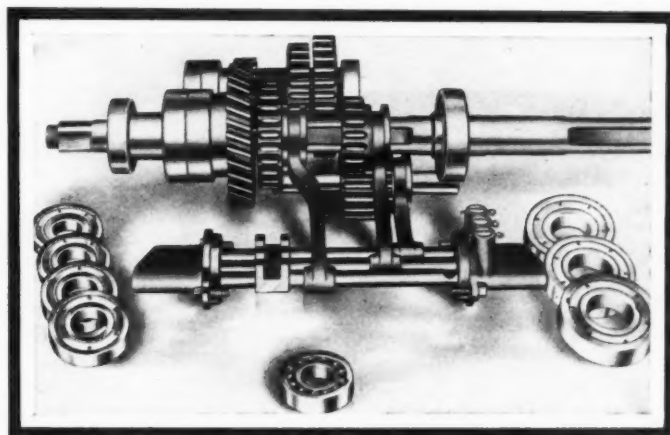

Fig. 2—Assembly of Knox gearset showing annular ball bearings
Fig. 2—(1) R.A.F. demountable wire wheel on a front-wheel spindle—(2) auxiliary hub upon which pressed-steel wheel hub is mounted—(3) the barrel or plug serving, together with the screw cap, to secure the wheel